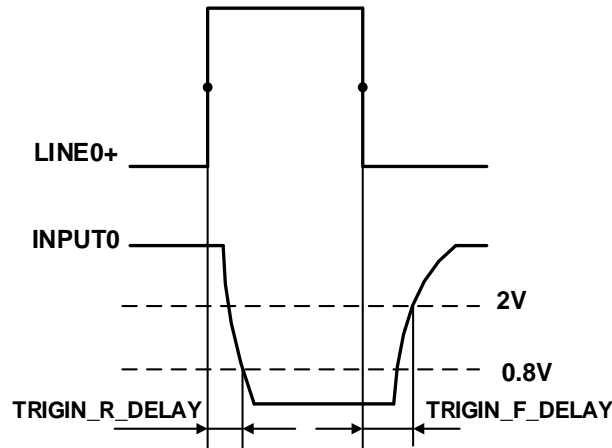

Figure 7-4 Parameter of opto-isolated input circuit
- Rising edge delay:  $<50\mu\text{s}$  ( $0^{\circ}\text{C}\sim 45^{\circ}\text{C}$ ), parameter description as shown in Figure 7-4
- Falling edge delay:  $<50\mu\text{s}$  ( $0^{\circ}\text{C}\sim 45^{\circ}\text{C}$ ), parameter description as shown in Figure 7-4
- Input rising time delay:  $<2\mu\text{s}$  ( $0^{\circ}\text{C}\sim 45^{\circ}\text{C}$ ), parameter description as shown in Figure 7-4
- Input falling time delay:  $<2\mu\text{s}$  ( $0^{\circ}\text{C}\sim 45^{\circ}\text{C}$ ), parameter description as shown in Figure 7-4